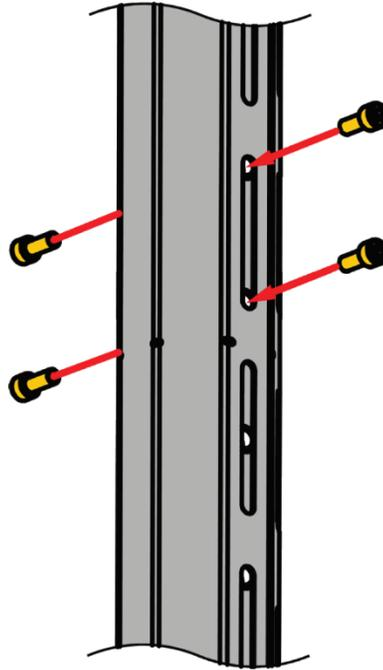

Figure 83:
Step 9: Tighten the lower tube ③ to the upper tube ② by using the bolts ⑧ (4 pcs.) at the desired height/drop, as shown in **Figure 83**.